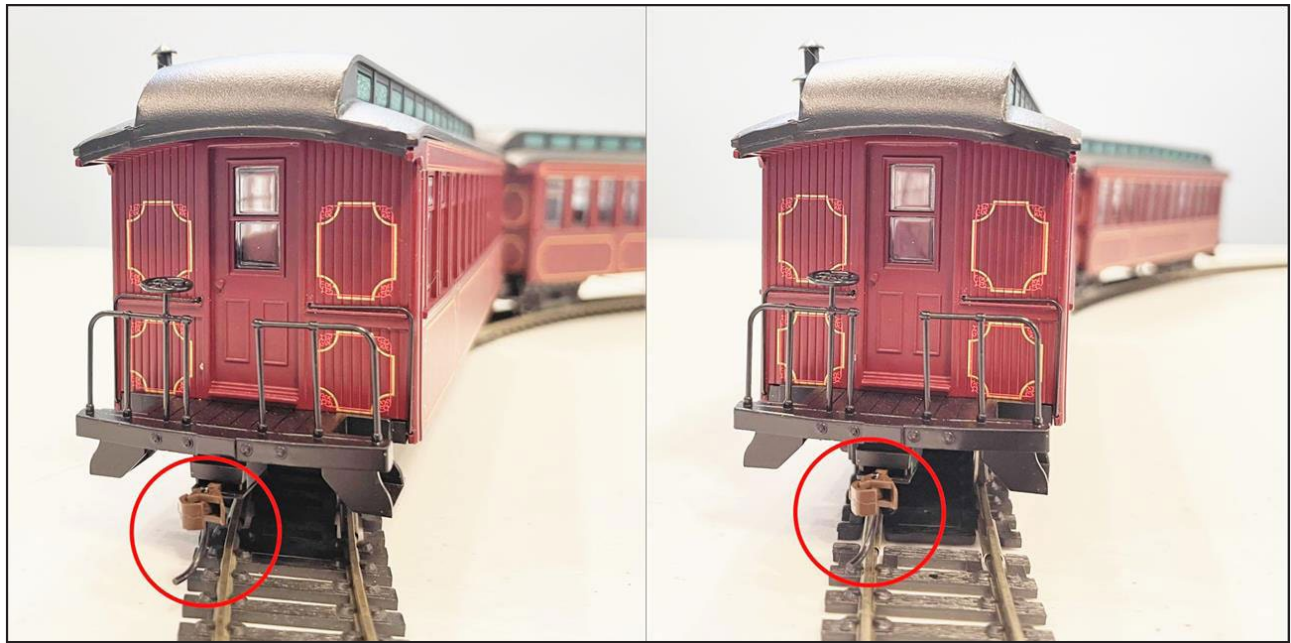

Figure 3: On the left is 15" radius and the right is 22" radius. Note the coupler overhang and odd angle of divergence for the background car on the 15" radius.
- Minimum Radius – This depends on your scale and the type of engines and rolling stock (see figure 3). Check out these tips on curves: [https://www.ldsig.org/hints-and-tips/#Curve\\_radius\\_rule-of-thumb](https://www.ldsig.org/hints-and-tips/#Curve_radius_rule-of-thumb)